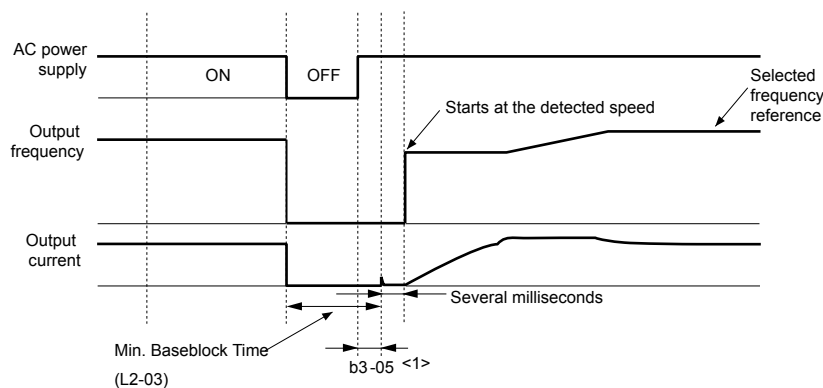

Figure 5.13 Speed Search after Baseblock
**Note:** If the Run command is quickly switched off and then back on again when the drive is set to “Coast to stop” as the stopping method, Speed Search will operate as shown in Figure 5.13.